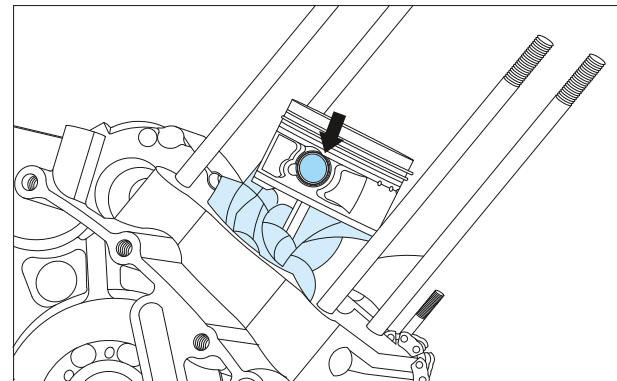

Fig. 3.147
- Insert the piston pin in the piston and now assemble the piston to connecting rod and insert the piston pin fully. Lock the piston pin with the circlip 17x1.0. (Fig. 3.147)